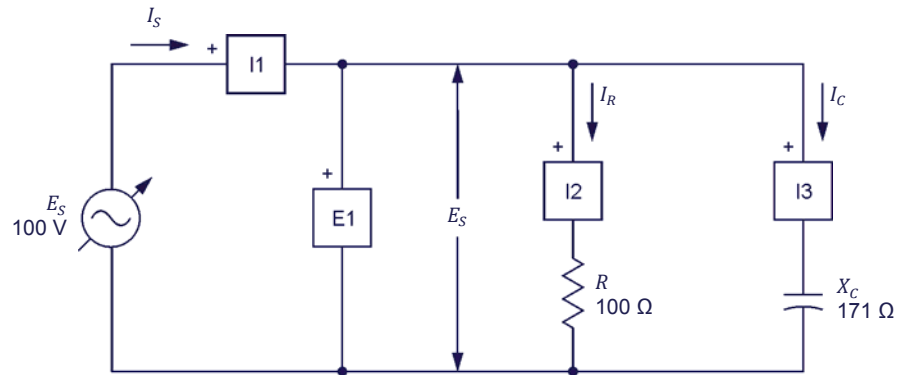

Figure 4-5. Parallel ac circuit containing a resistor and a capacitor, and set up for circuit analysis.
6. Set up the circuit shown in Figure 4-5.
8. Resolve the entire circuit shown in Figure 4-5 using the impedance calculation method.